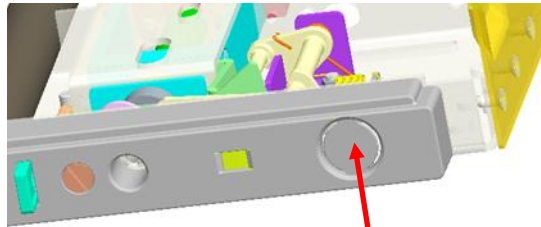

Figure 2
- Remove the knock-out feature on the cassette front panel (Fig. 2) and clean the flash with any sharp pointed Tool. Ensure no flash or projections left out and cavity is free for insertion the lock.